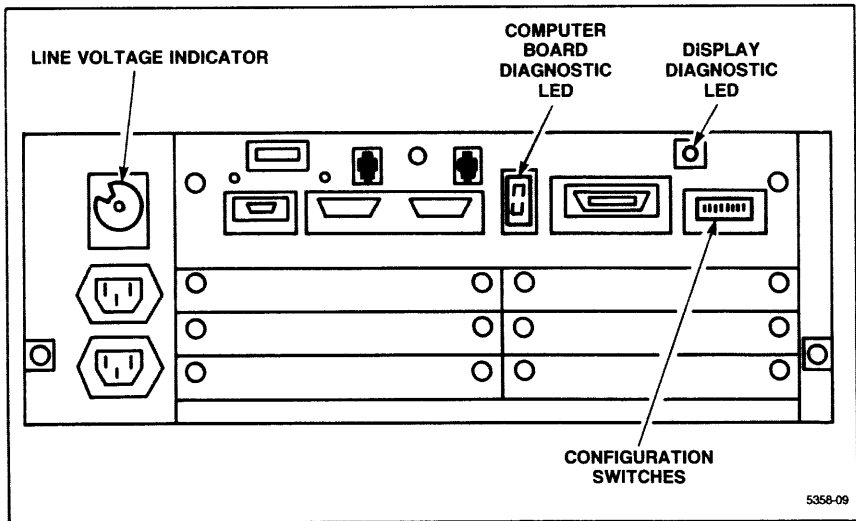

Figure 1-2. Back Panel of the Workstation.
- *Computer Board Diagnostic LED* — This seven segment LED on the workstation back panel (see Figure 1-2) displays a diagnostic code when the computer board fails. During normal start-up, the LED shows the following:
- **Display Board Diagnostic LED** — This LED is also on the workstation back panel (see Figure 1-2). It is a single LED that lights up when the display board fails. If your workstation is not equipped with a 6100 Series display, this LED is not present.
- **Line Voltage Indicator** — This yellow plastic indicator is located on the workstation back panel just above the power cord connection (see Figure 1-2). The indicator should match the line voltage setting for the workstation.